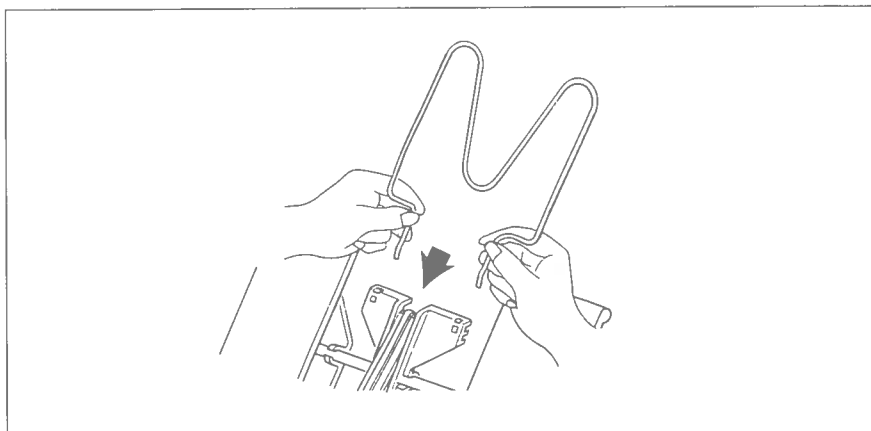

Figure 7-5. Insert the hopper attachment.
8. Insert the hopper attachment on top of the hopper support section as shown in Figure 7-5.